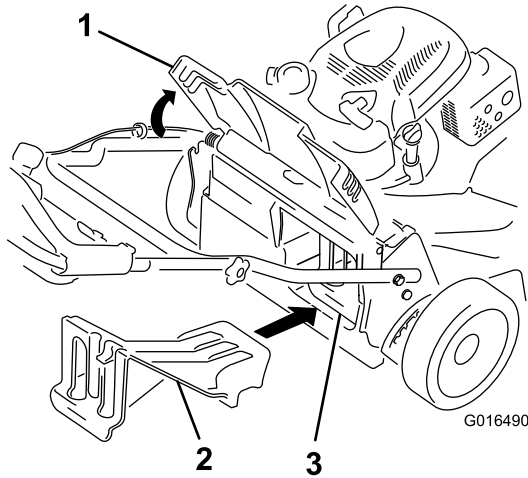

Figure 24
- If the rear-discharge plug is not installed, grip it by the handle, raise the rear deflector, and insert it into the rear-discharge chute until the latch locks into place; refer to Figure 24.
**Important:** Ensure that the rear-discharge plug is in place before you recycle the clippings (Figure 24).